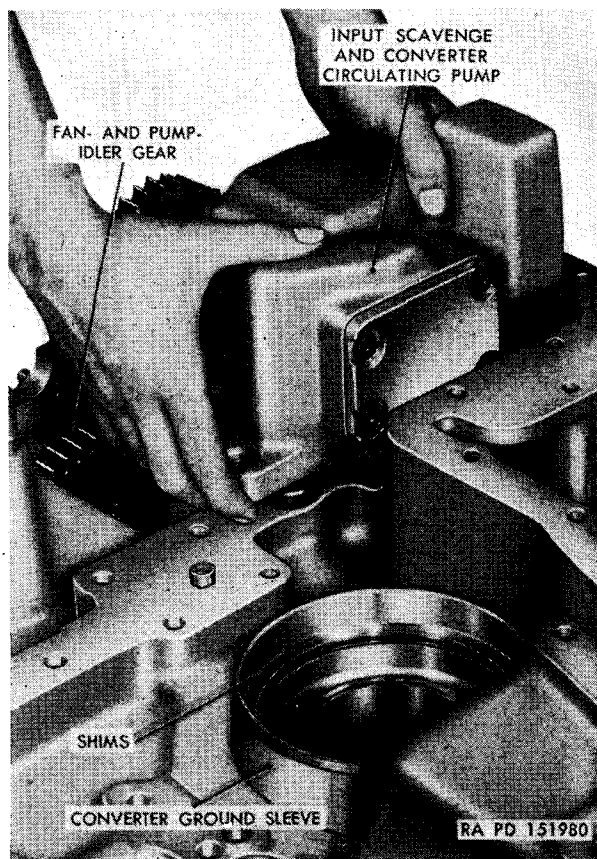

Figure 241. Removing or installing input-scavenge and converter circulating pump assembly.
- (1) Remove a cotter pin from each of the three nuts that secure the input-scavenge and converter circulating pump assembly to the housing. Remove the three nuts using a $\frac{1}{2}$ -inch wrench, and remove the washers and pump assembly (fig. 241).